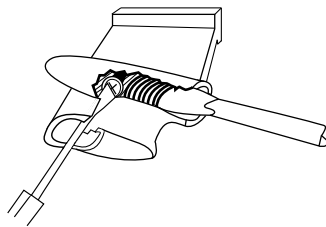

Figure 7
2. Remove retaining screw holding the cable and the contact spring. (See Figure 7)